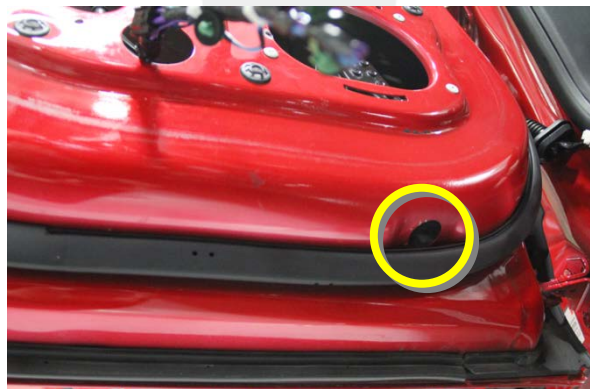

Figure 9
5. Remove the forward drain plug (Figure 9).
11. Reinstall the forward drain plug (Figure 9).